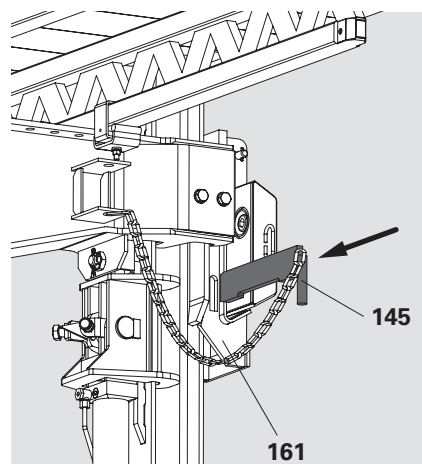

Fig. D2.05
5. Insert Ledger ACS (**145**) into Climbing Shoe II (**161**). (Fig. D2.05)